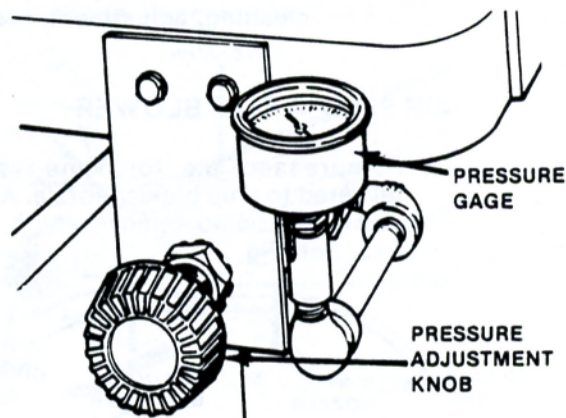

FIG. 27. FEED FORCE ADJUSTMENT KNOB & GAGE.
- (2) Set desired feed force with regulating knob at table's left. Turn **clockwise** for increased feed force, **counterclockwise** to decrease. Refer to gage for pressure reading. See Fig. 27.